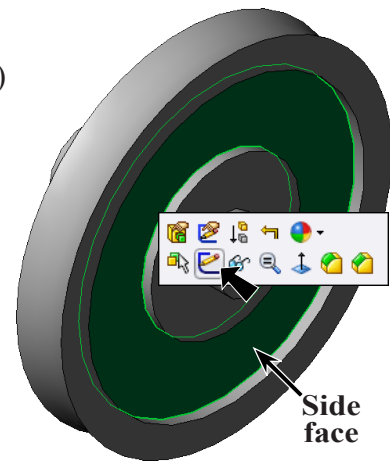

Fig. 24
Step 2. Click **side face of rim** and click **Sketch**  on the Content menu, **Fig. 24**.